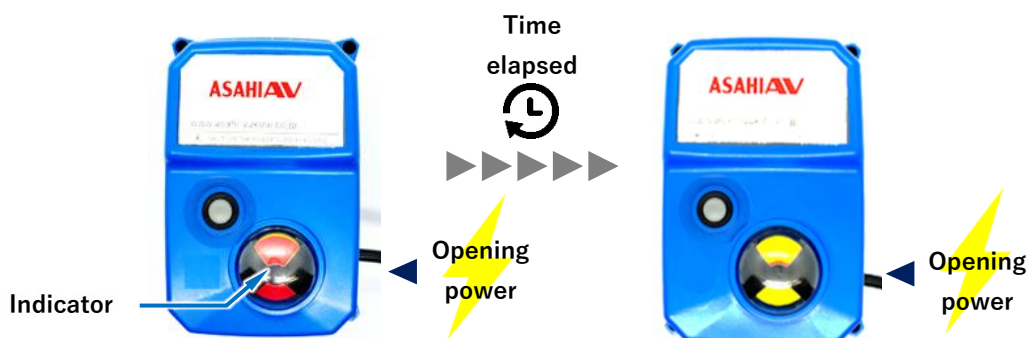

Figure 7.2-2 Opening control
- ① Confirm that the actuator indicator is "solid red".
- ② Supply opening power (power between blue and black of the pre-cable) from the distribution board to the actuator.
- ③ After the set period of time, confirm that the actuator indicator automatically stops at "solid yellow" (Figure 7.2-2).